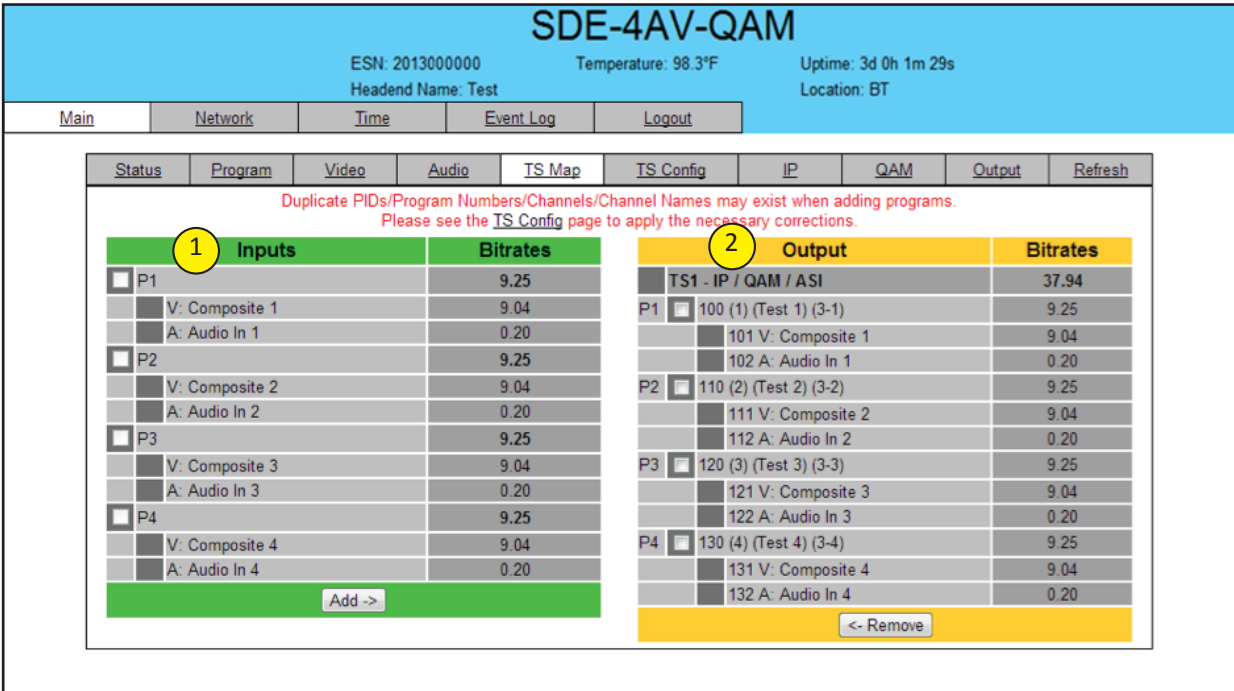

Figure 5.6 - "Main > TS Map" Screen
The "Main > TS Map" screen (Figure 5.6) is a "read and write" screen to assign programs to TS (s):
- **Add:** Once the selection of programs is completed, select the "Add" button. This will add the selected programs to the Output as shown in 2 of Figure 5.6.